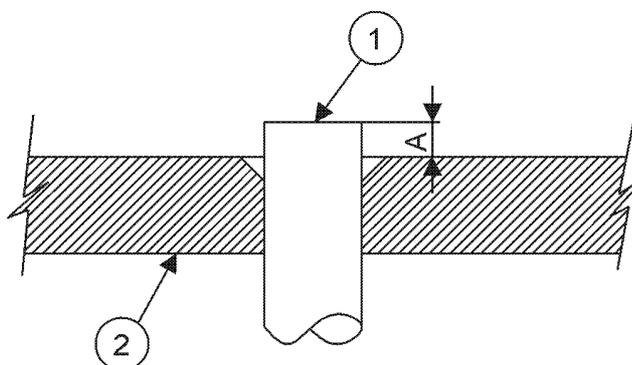

Fig. 24. Setting the tube in the flaring tool
- B. Set the tube within the flaring tool (see Fig. 24). The height "A" of the tube protrusion will be determined by the tube outer diameter. See table No. 2.